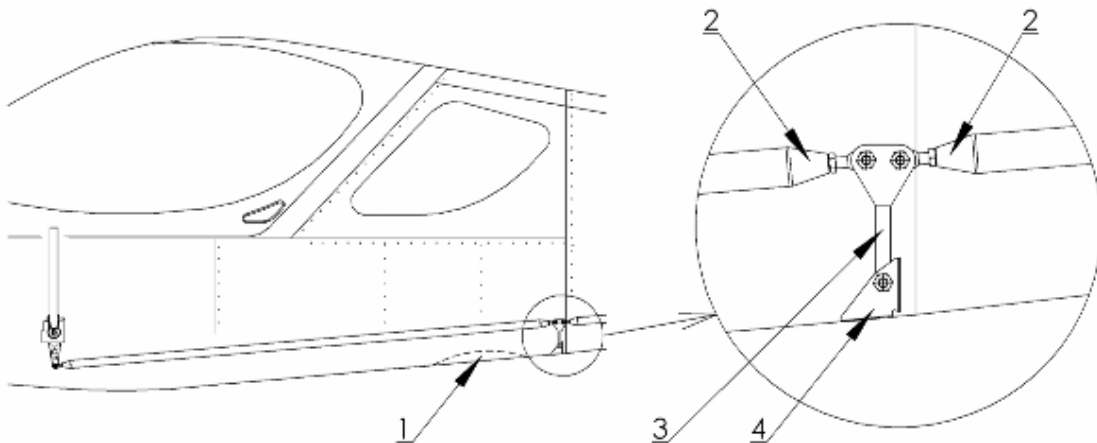

Fig. 6-11
Bail arm attachment is shown on Fig. 6-11.
Attachment of the bail arm lever is shown in Fig. 6-11.
- (b) Set the bail arm lever (3) to the position (see Fig. 6-11), insert the bolt into the hole in the lever and the hinge (4) and secure it with the castle nut and cotter pin. Tighten the nut slightly.